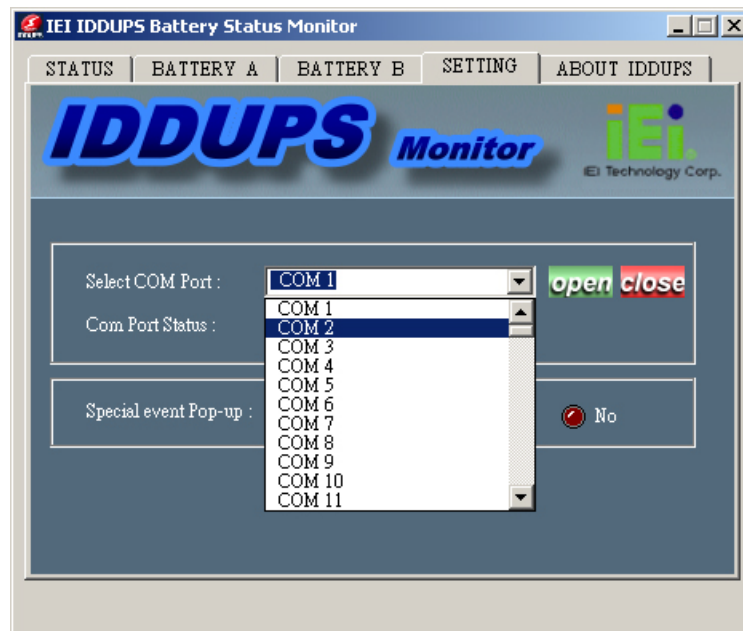

Figure 5-3: Serial Port Selection
Step 5: Select the label of the connected serial port of the SBC (Figure 5-3).